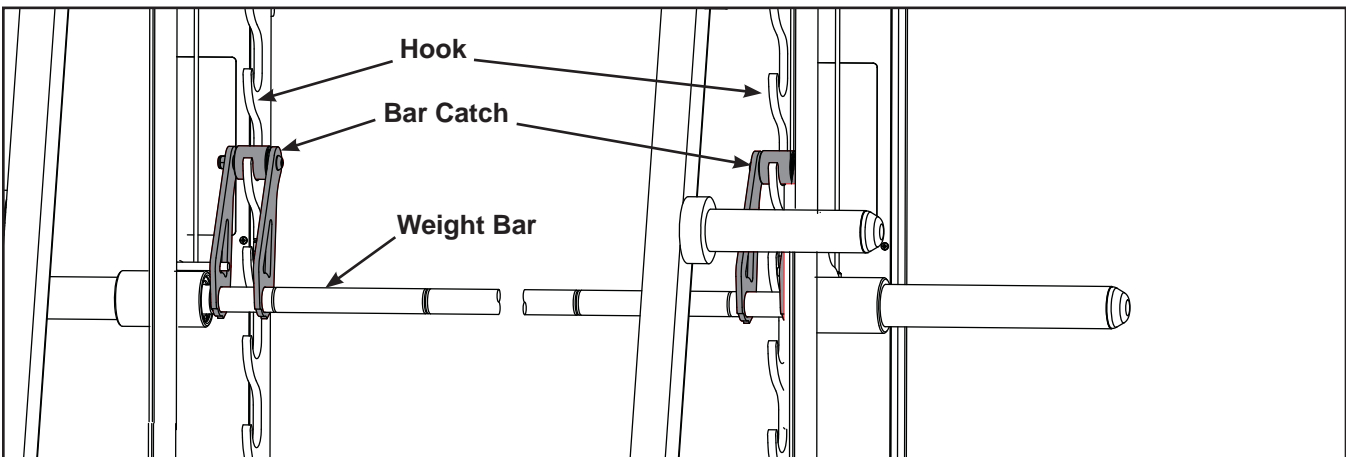

Figure 4
- B. Verify each bar catch is hooked properly on the hook. See Figure 4.